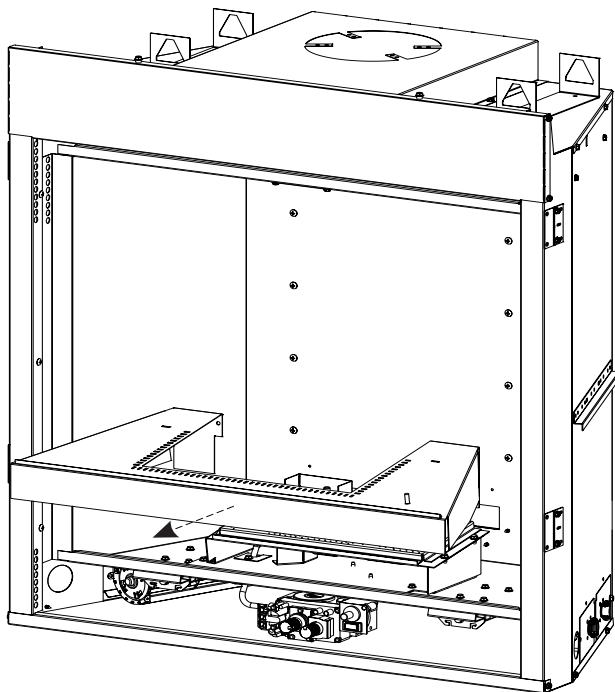

Figure 9
5. Remove burner cover by lifting off. **See Figure 9.**
17. Replace burner cover removed in step 5. **See Figure 9.**